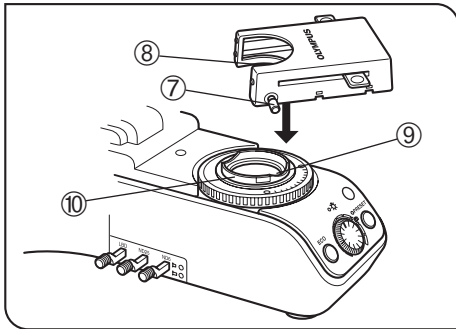
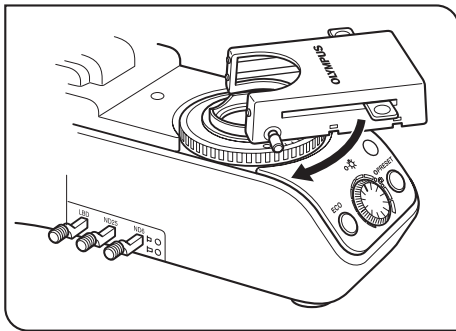

Fig. 18
Fig. 19
1. Fully loosen the filter cassette clamping screw ⑦. (Fig. 18)
2. Align the key ⑧ on the bottom surface of the filter cassette with the positioning slot ⑨ on the filter mount, then snap the filter cassette into place from above.
3. Rotate the filter cassette to align its sides with the base. (Fig. 19)
4. Align the clamping screw ⑦ with the positioning hole ⑩ on the filter mount, then tighten the screw to fasten the filter cassette.